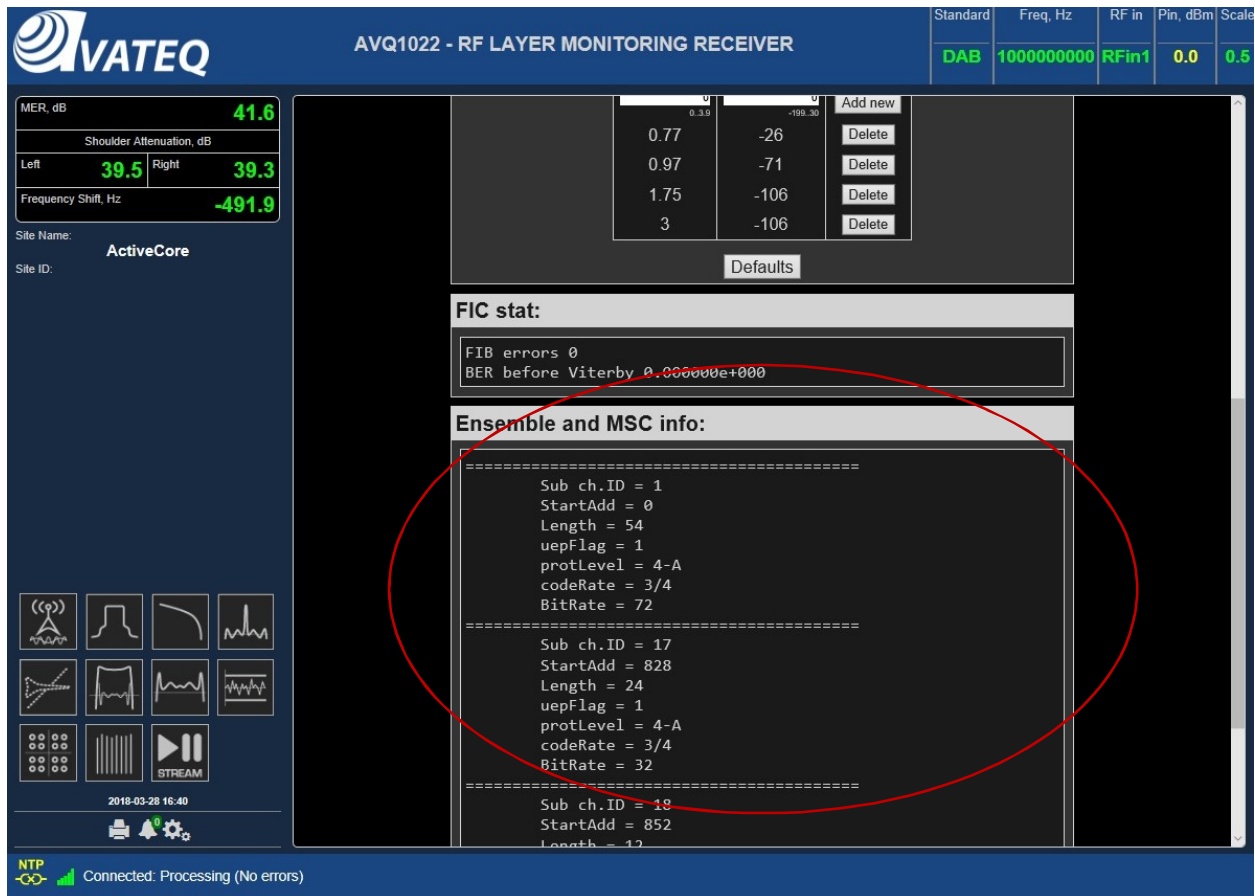

Figure 38. DAB/DAB+ Ensemble and MSC Info
1. Tune AVQ1022DAB to a desired frequency (DAB channel) and check that the unit can demodulate and decode the signal, for example, by checking Ensemble and MSC info section on Statistic page of the unit UI (Figure 38).